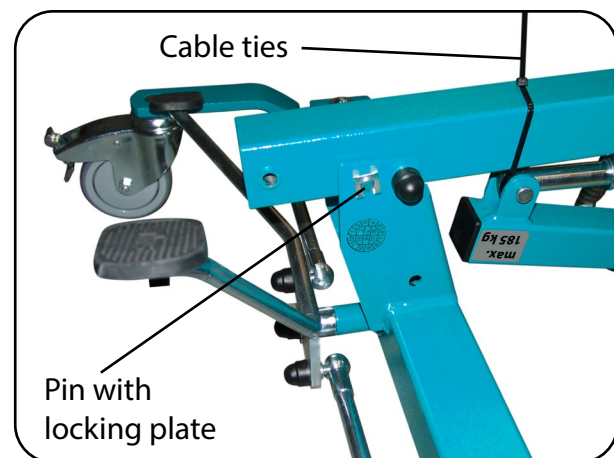

Fig. 13.2.06 – Stand mast holder
6. Lock the stand mast in place with the pin on the stand mast holder. Secure the pin with the locking plate (Fig. 13.2.06).